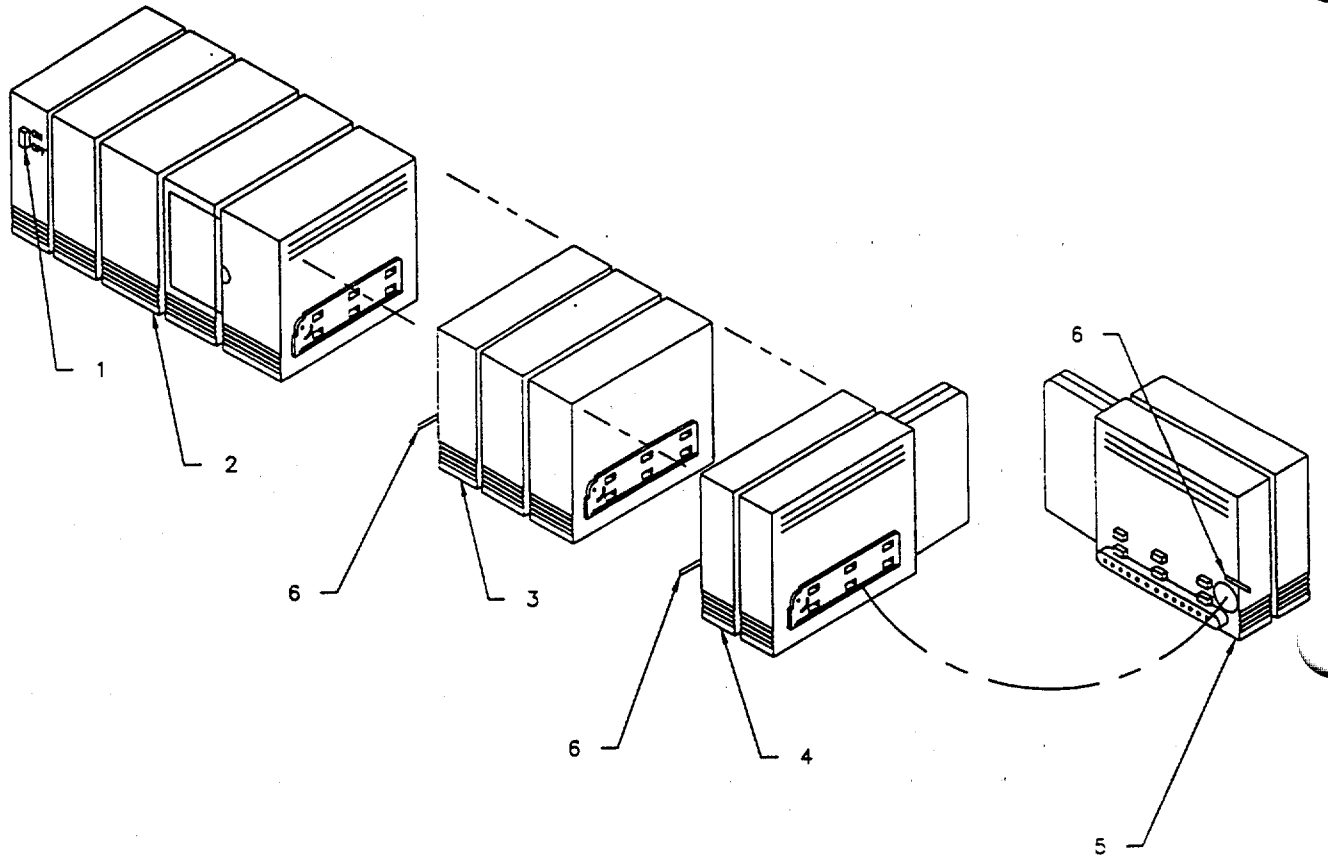

Figure 3-27. B39 Expansion Modules
**3-11. REPLACE TAPE STREAMER MODULE. (Figure 3-27).**